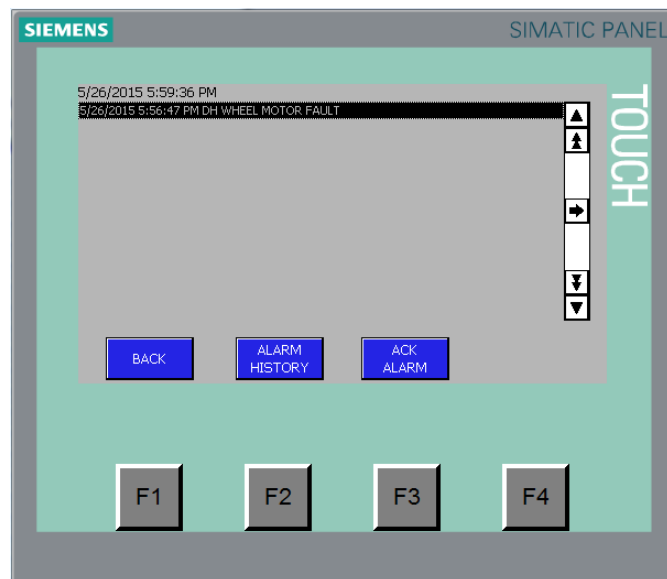

Figure 3-13
2. To see the details on the fault or warning, press the ALARMS button. Figure 3-13 shows the type of screen that the display might present.